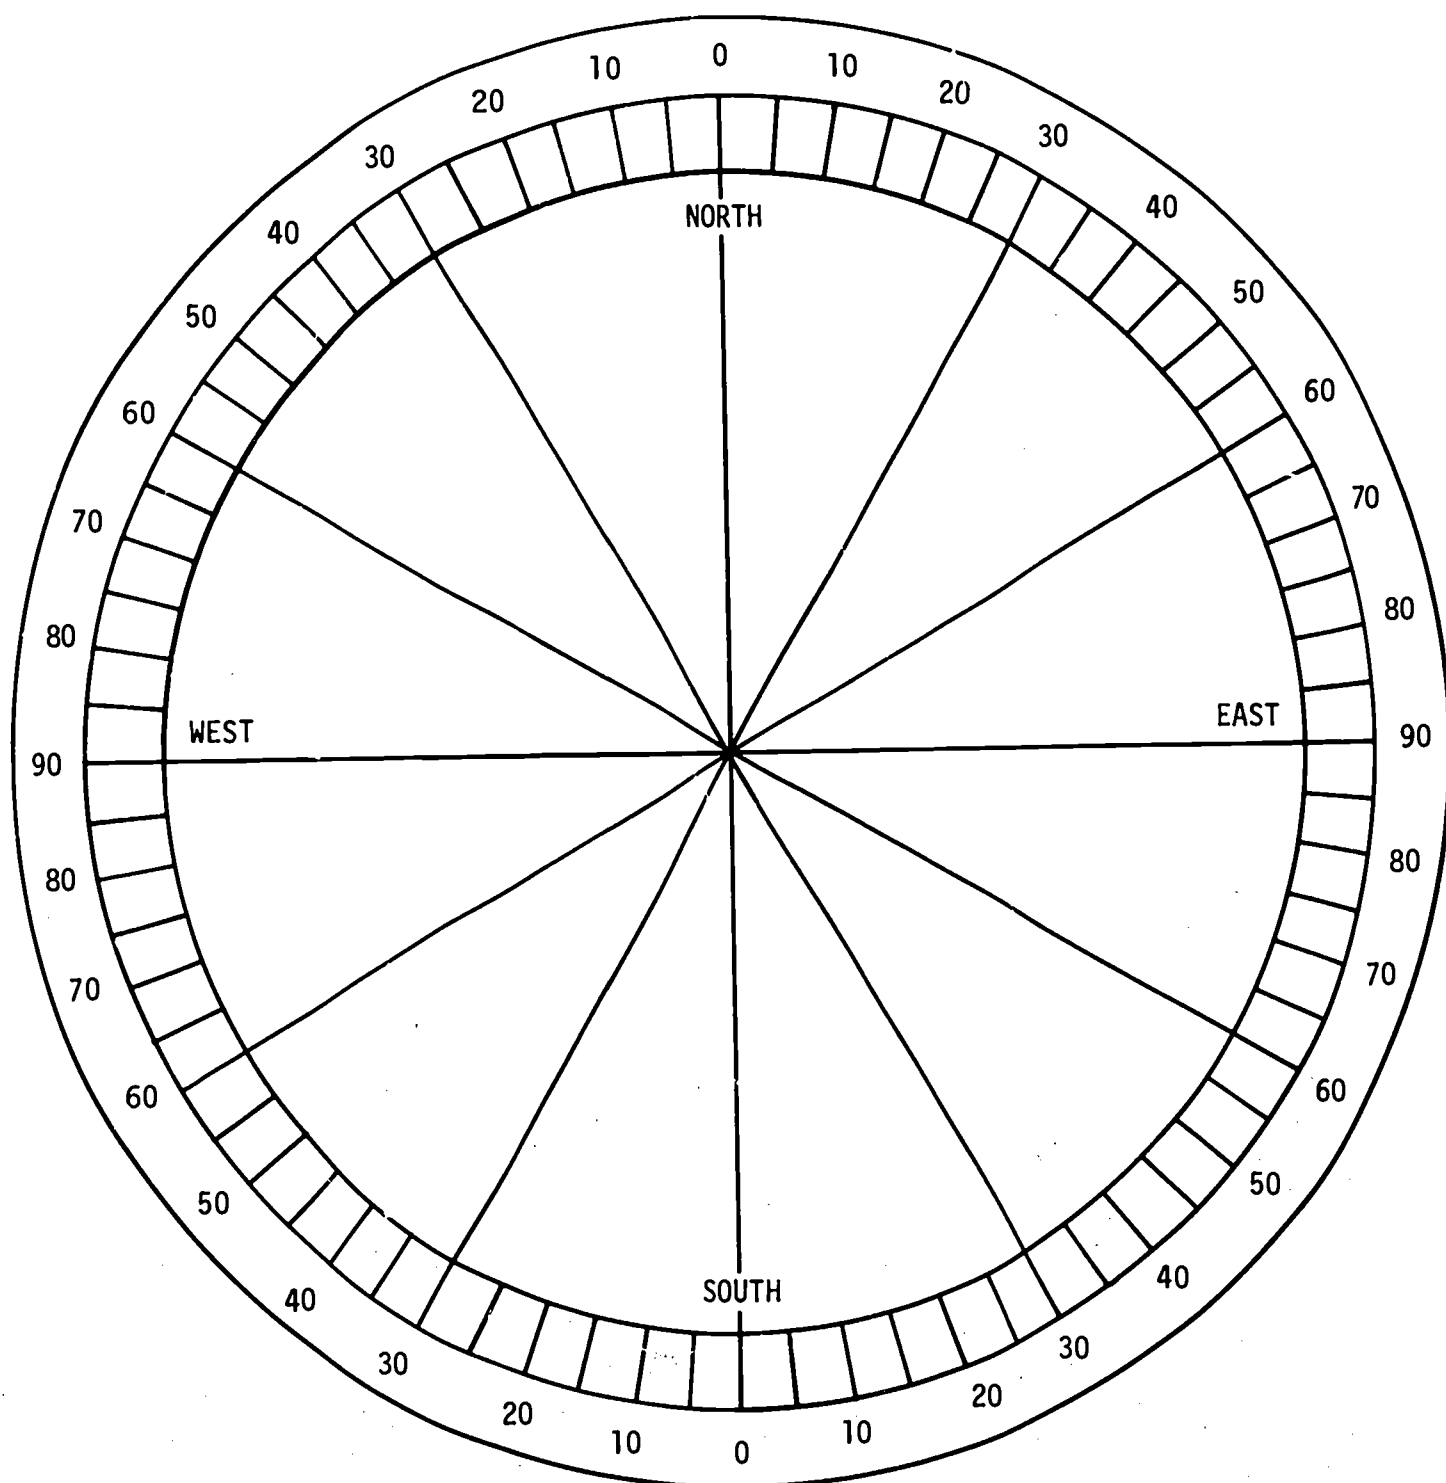

Fig. 7-1. Direction Circle
1. Very lightly draw a straight line from the center of the circle (Fig. 7-1) in the following directions.
2. Cut out the direction circle. See Fig 7-1.